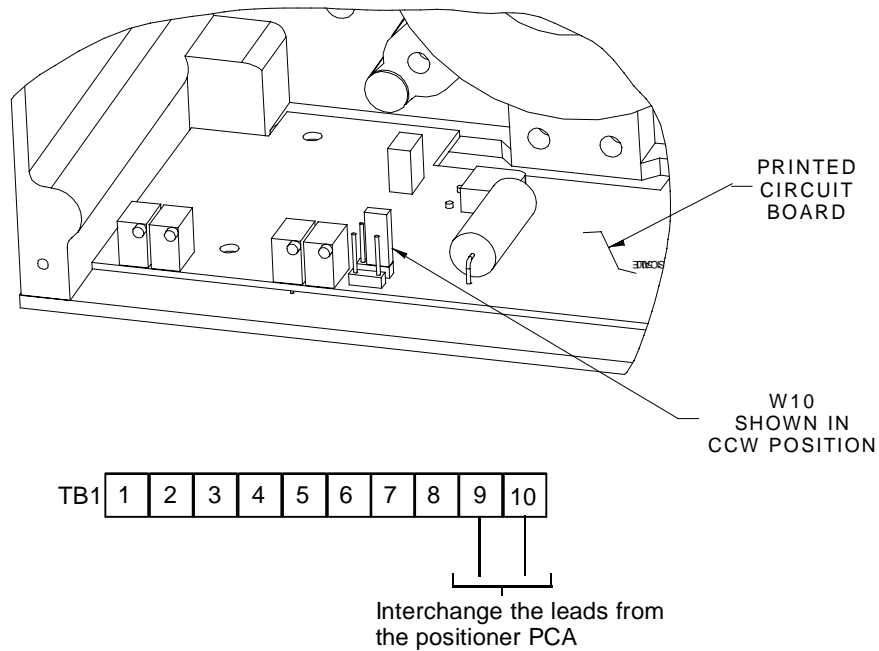

Figure 4-9 Reversal of Direction
1. Remove power from the actuator, and change the jumper on W10 (see Figure 4-9) from the pin 1 to 2 position to the 2 to 3 position. Interchange the Motor Positioner leads on terminals 9 and 10.